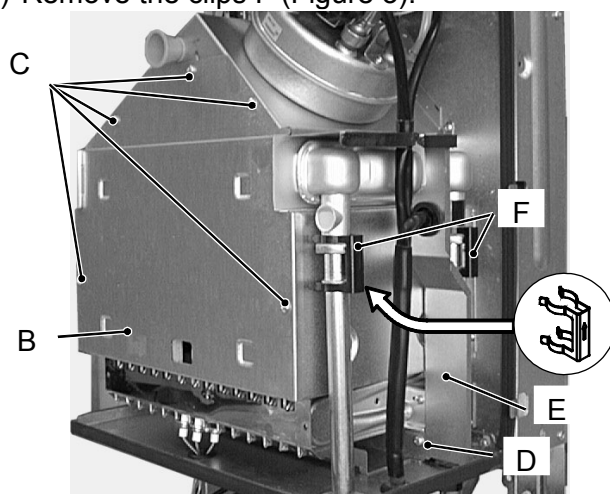

Figure 3
- 4) Remove the front panel B of the combustion chamber by unscrewing the screws C (Figure 3).
- 6) Remove the clips F (Figure 3).
- 10) Reassemble the boiler carrying out the removal operations in reverse order. Fit the clip F with the arrow pointing upwards as illustrated in Figure 3.